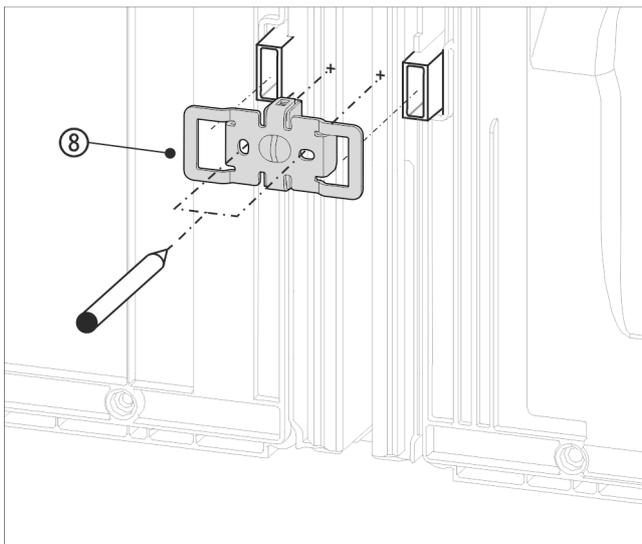

Fig. 17 Example illustration
- ▶ Slide the bracket Fig. 17 (8) on with the slots over the retainer for the wall spacers.